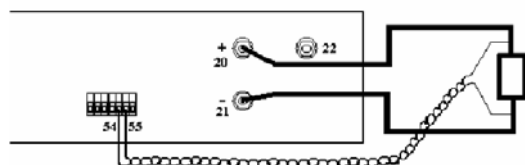

Figure 4. External sense.
2. Connect a twisted-pair (0.25mm² -1.5mm²) between the sense terminals of the converter and the load, see *Figure 4*. The sense leads and the power cables shall be of approximately the same length and drawn as close to each other as possible. **Beware of correct polarity!**